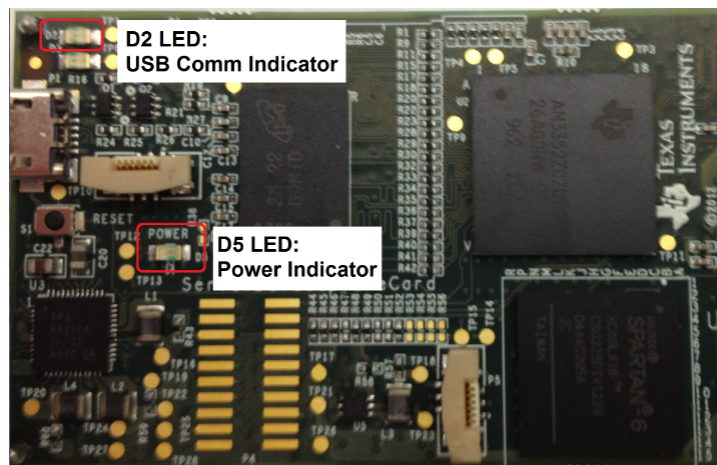

Figure 8. LED Indicators on the Simple Capture Card
5. Verify that the LED D5 power-good indicator is illuminated. Wait approximately ten seconds and verify that diode D2 blinks, indicating that USB communication with the host computer is functioning properly. Figure 8 shows the location of the LED indicators in the simple capture card.